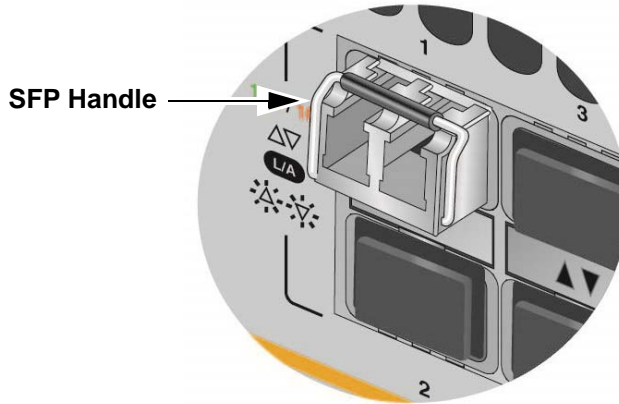

Figure 70. Positioning the SFP or SFP+ Handle in the Upright Position
6. Verify the position of the handle on the transceiver. If the transceiver is in a top slot, the handle should be in the upright position, as shown in Figure 70. If the transceiver is in a bottom slot, the handle should be in the down position.